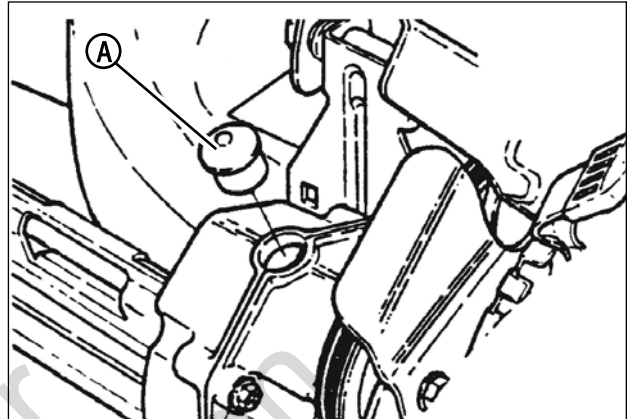

Figure 15: Removing the transmission fill plug
1. Remove the transmission fill plug (A, Figure 15). Roll the machine forward or backward while looking down into the plug hole.